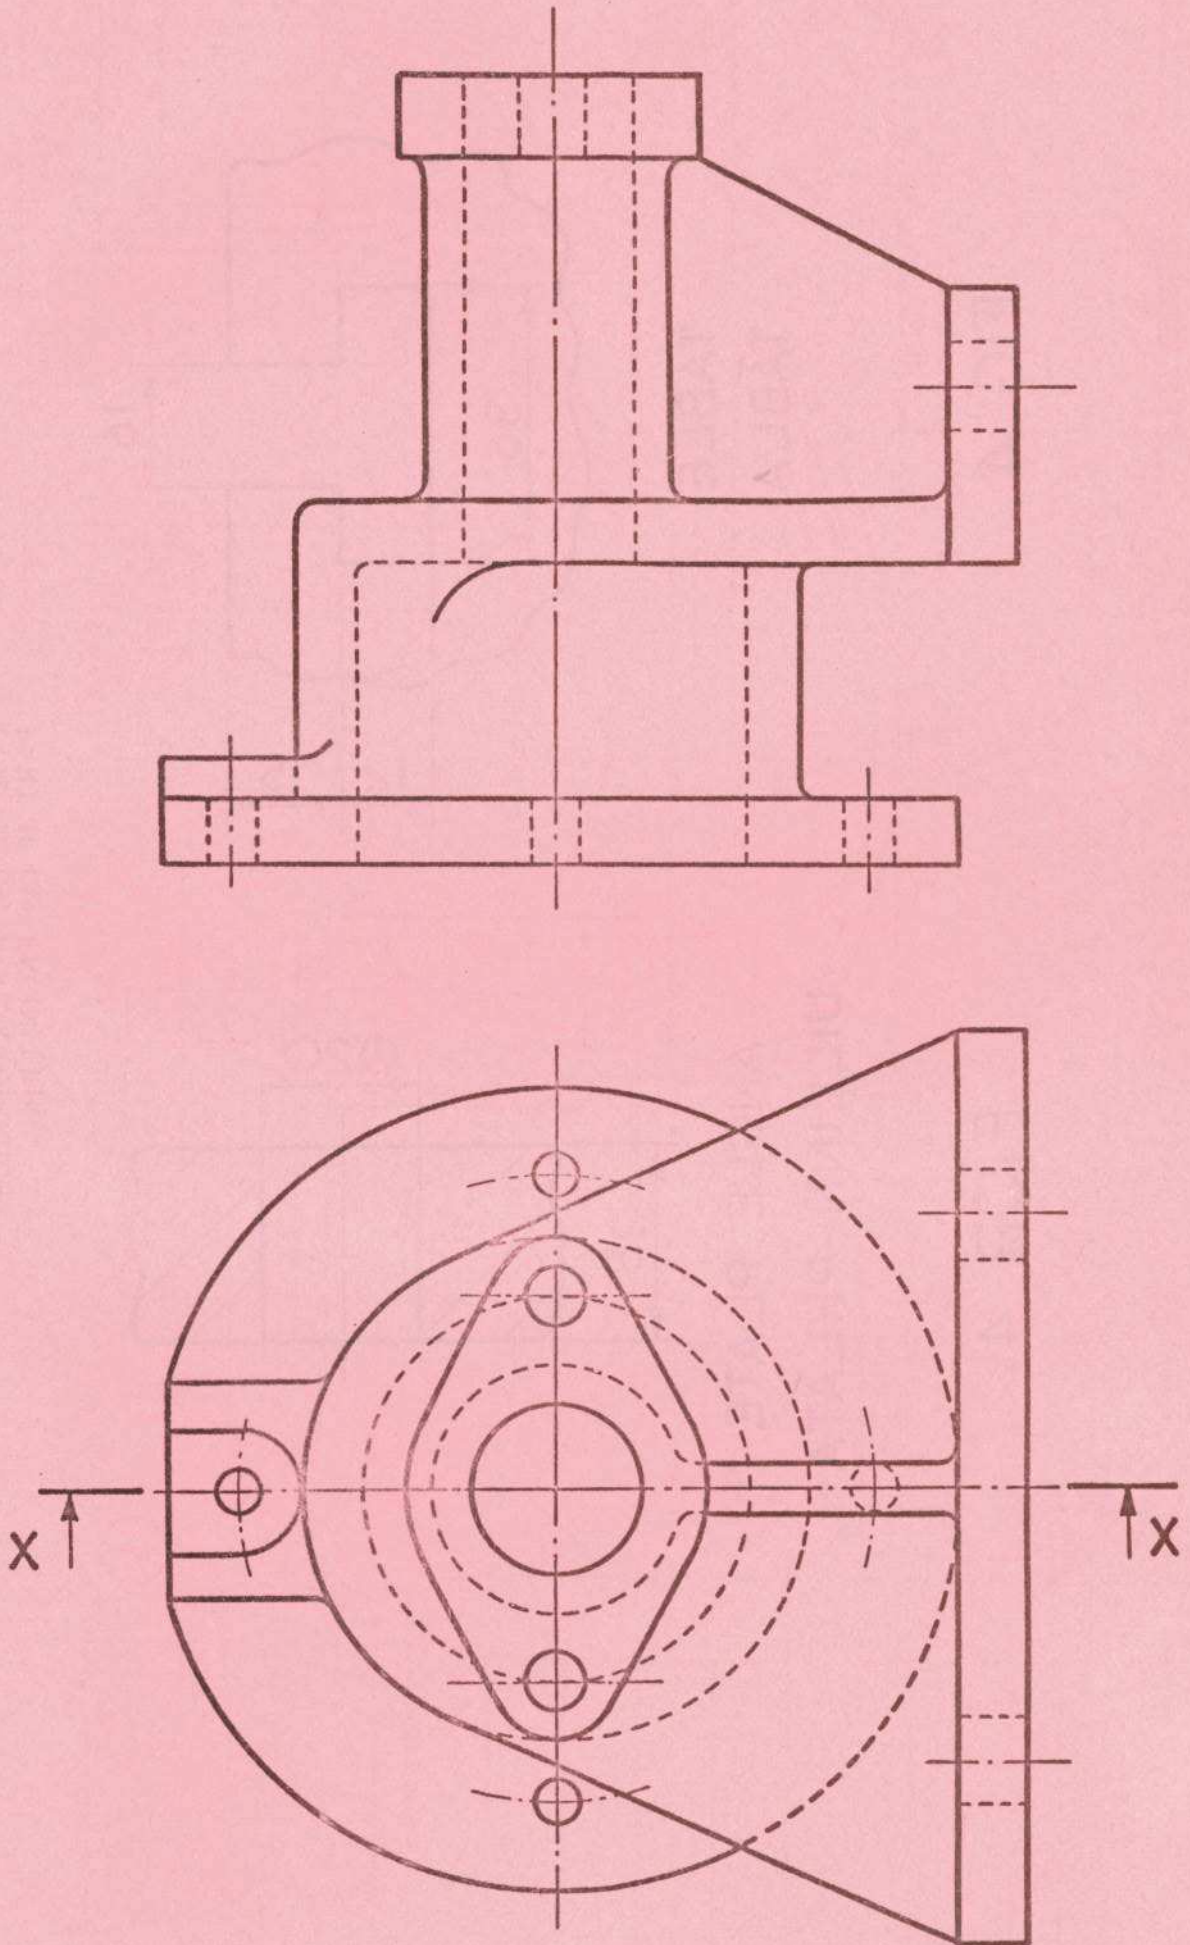

FIG. 3
3. (a) Two views of a casting are shown in Fig. 3. Trace, in ink, on the tracing paper provided a sectional elevation on the cutting plane X-X viewed in the direction of the arrows. (The casting is drawn in first angle projection).
3. Fig. 3 shows the elevation, plan and cross-section of entrance steps and supporting walls. Each step measures 270 mm by 175 mm. Draw the plan and elevation. Show, in plan and elevation, the shadows cast when the direction of the light is as indicated by the arrows. Scale 1 : 10.